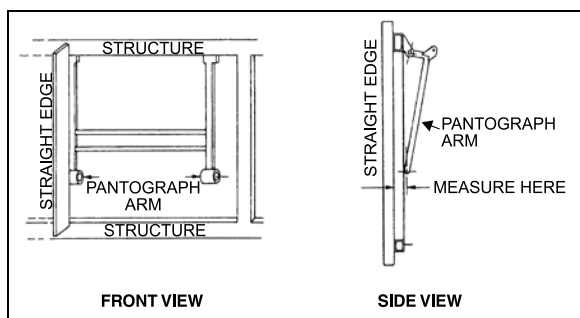
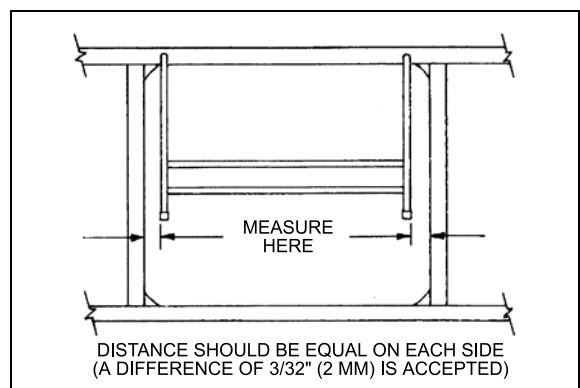

FIGURE 58: PANTOGRAPH DOOR ADJUSTMENT
FIGURE 59: PANTOGRAPH DOOR ADJUSTMENT
Measure distance between a pantograph arm end and a straight edge resting on structure. Repeat procedure for the other arm. The distance on each side should be equal. If not, bend appropriate arm until desired measure is obtained (Figure 58 & Figure 59).
5. When the door is straight, remove the 2x4's and check door operation and fit. A difference of  $\frac{3}{32}$ " (2mm) between both sides is accepted (Figure 59).